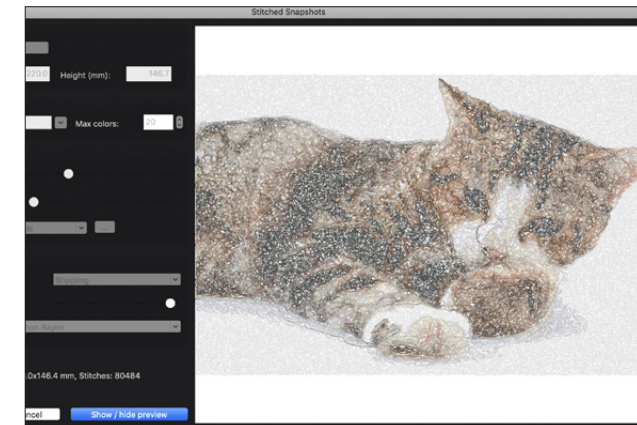

Figure 37
5. Once done, select a palette if needed and click OK, for it to display on your workspace. **See Figure 37.**